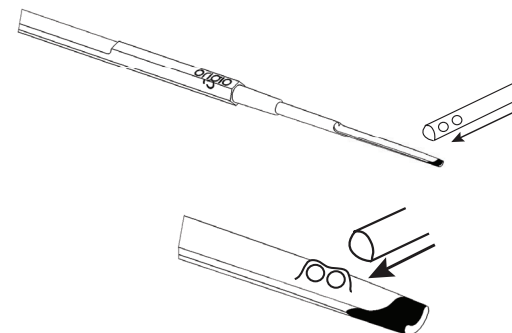

Figure 3
5. Using a micropipette, carefully load a maximum of 3 specimens in a minimal volume ($<0.5\mu\text{l}$) on to the concave surface near the end of the tip (Figure 3). If necessary, remove excess media. Use the black mark as reference.